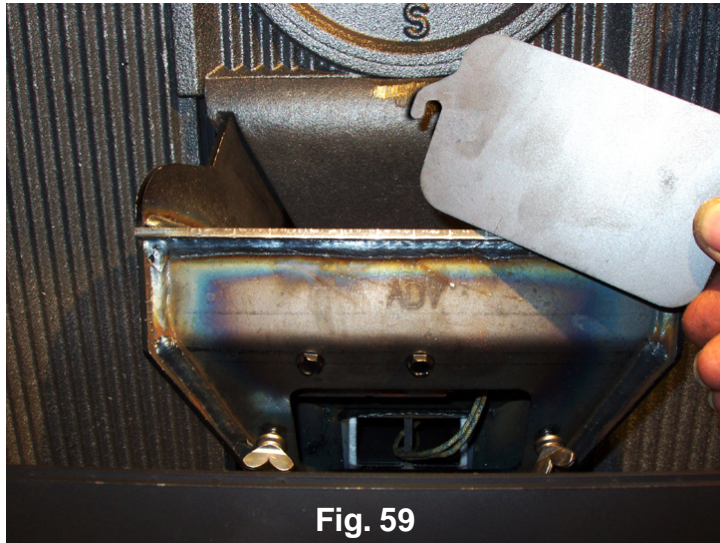

Fig. 59
2. Loosen the (2) wing thumb screws on the lower front angle of the burn pot. (Fig. 59)
3. Lift off the clean-out cover (Fig.59) to open the bottom clean-out chamber. (Fig.60)